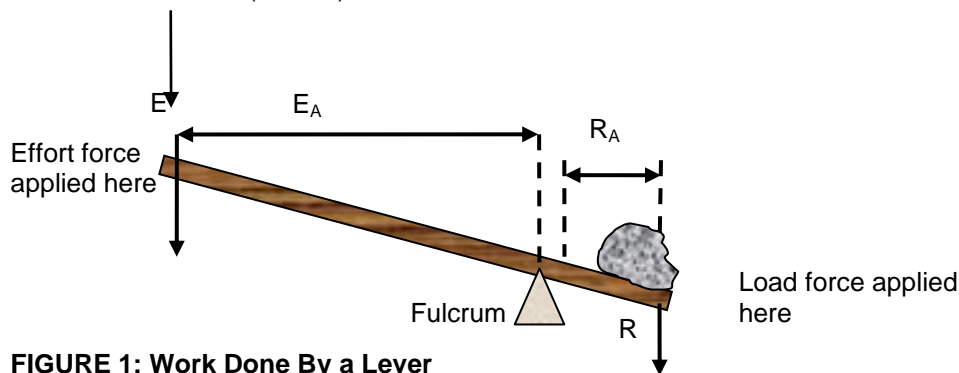

FIGURE 1: Work Done By a Lever
We will use the text and figure below (**Figure 1**) to look at restatement.
Levers are the simplest of the basic machines. Figure 1 shows the use of a lever to move a large object.
Example: Figure 1 shows us what each part of a lever is, and how it works.
- The text and **Figures 1 and 2** are typical examples of this.